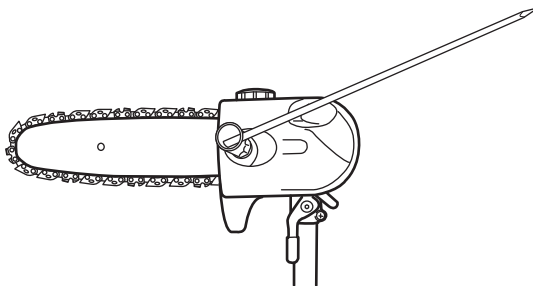

Fig. 7f
- h). Refit the cover (D2), spring washer (D4) and slightly tighten the locking nut (D3). (See Fig. 7f)